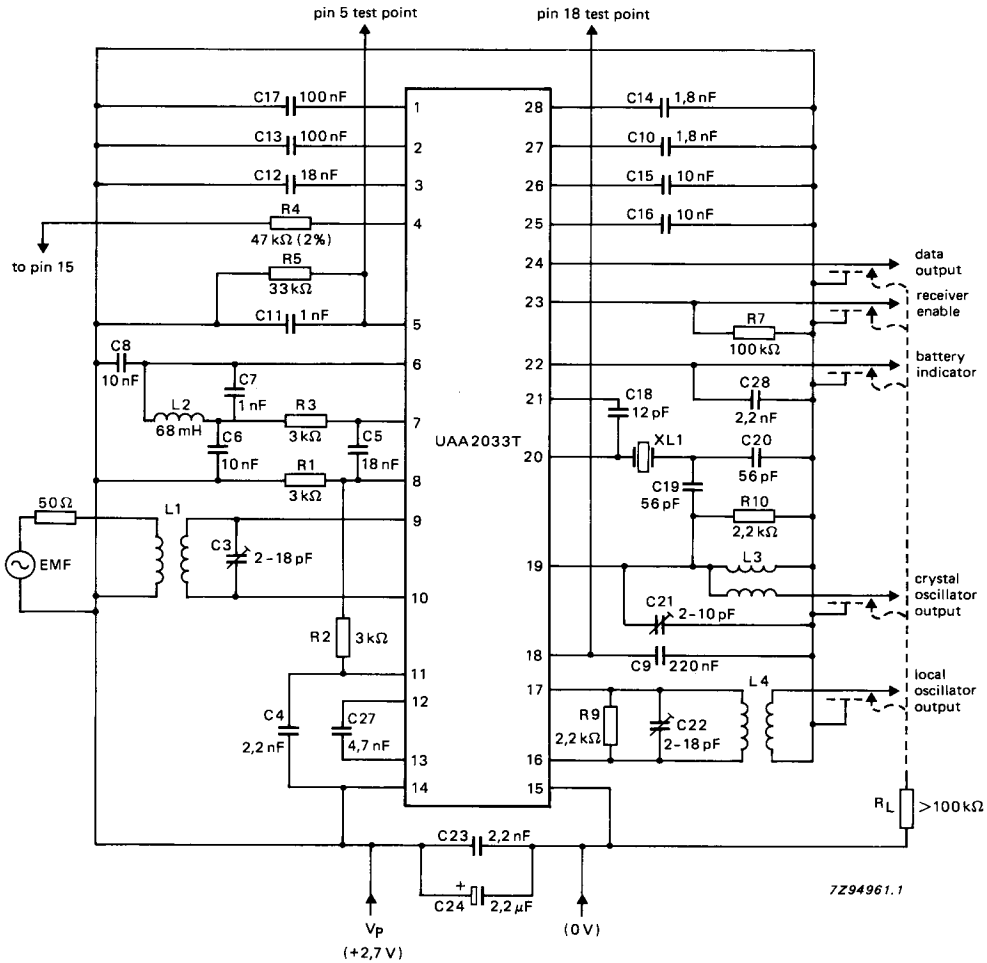

Fig. 3 Test circuit.
V_p = 2,0 to 3,5 V; T_{amb} = -10 to +70 °C; typical values measured at T_{amb} = 25 °C, V_p = 2,7 V; test circuit as Fig. 3 with L4 short circuited, no RF input and crystal XL1 removed
V_p = 2,0 to 3,5 V; T_{amb} = -10 to +70 °C; typical values measured at T_{amb} = 25 °C, V_p = 2,7 V; test circuit as Fig. 3 with f = 173,950 MHz; channel spacing = 25 kHz; deviation = ±4,5 kHz; bit rate = 512 b/s (256 Hz square wave); AFC frequency limits 173,948 and 173,952 MHz; see Tuning Procedure
1. After performing the DC tests, set up the device in the AC test circuit as per Fig. 3.